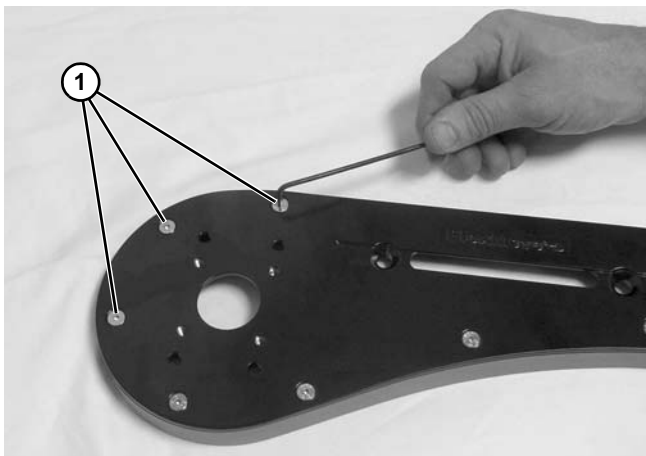

Figure 134
4. Remove three socket head screws (**Figure 134, item 1**).